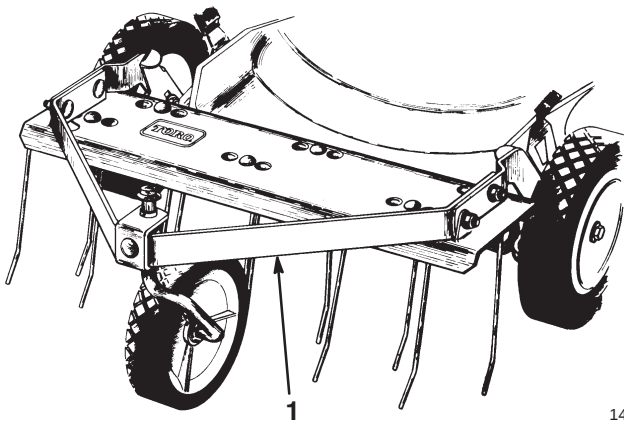

Figure 33
- **Dethatcher Kit**—Installs in minutes. It is front-mounted for easy maneuverability (Fig. 33). The spring tines loosen thatch for clean and convenient vacuuming into the grass bag.